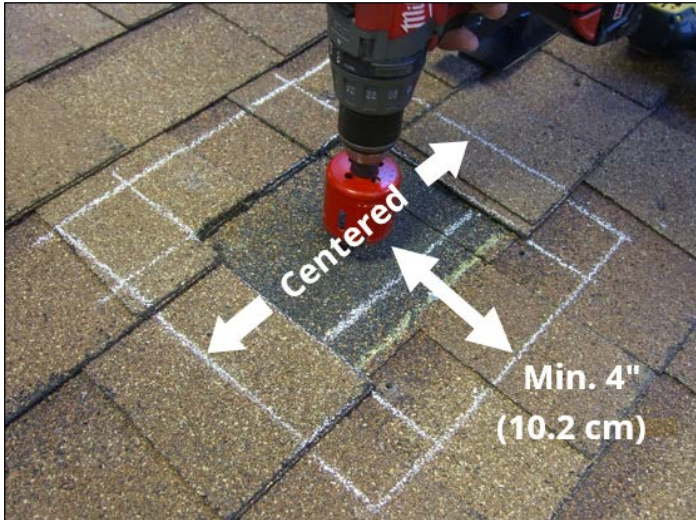

Fig. J5
8. Through the roof surface from which you removed material, drill a single pass-through hole no larger than 2" (5 cm), centered E-W, and no less than 4" (10.2 cm) from the lower edge of the flashing (Fig. J5).